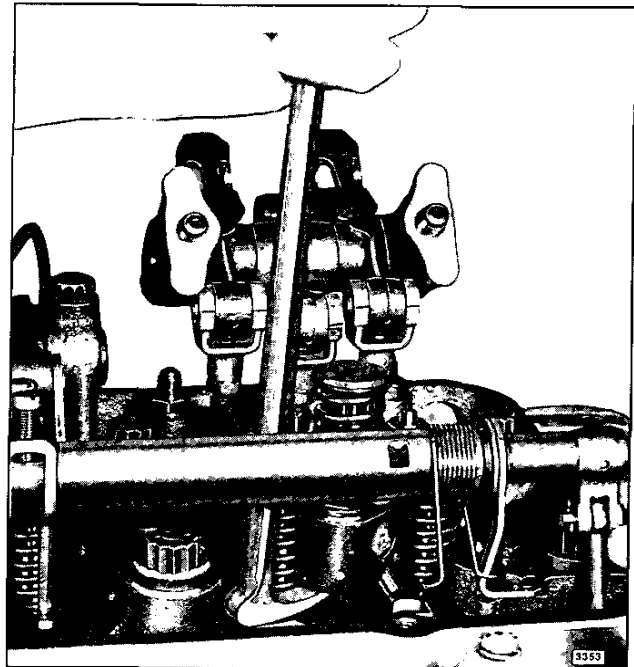

Fig. 6 - Removing Injector from Cylinder Head
4. Remove the two rocker shaft bracket bolts and swing the rocker arms away from the injector and valves (Fig. 6).
7. Lift the injector from its seat in the cylinder head (Fig. 6).